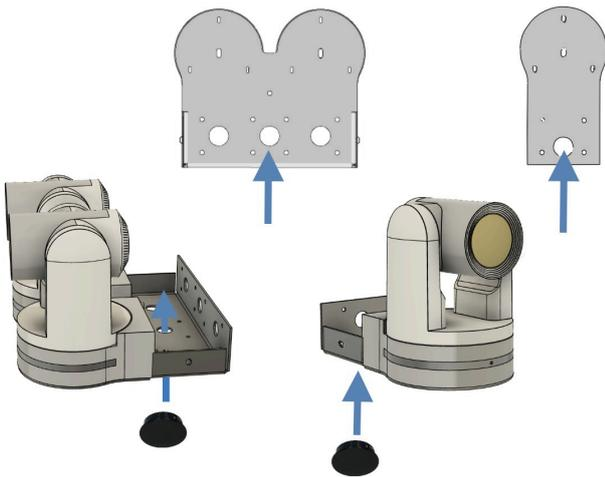

Figure 6: Cover Cap
1. Mount the MT200 or MT220 baseplate (the bracket) to the wall (Figure 1 and 2). Make sure that you need more screws (**8**) to mount the MT220 to the wall. For both mounts it is possible to connect the cables from behind the wall. See the drawings under "Measurements and Specs" and figure 6 below.